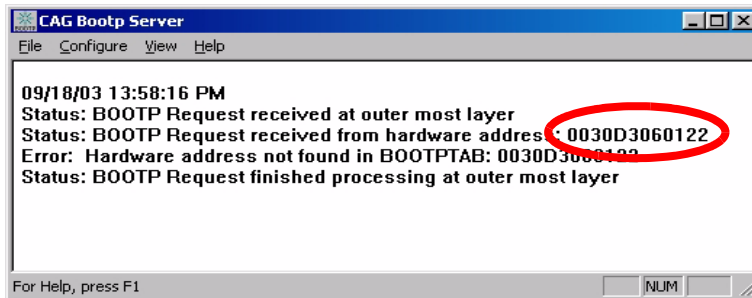

Figure 15 Bootp Server
- 3 Now turn on the module with the LAN Interface and view the Bootp Server window. After some time the Bootp Server will display the request from the LAN Interface with the hardware (MAC) address (this information is also stored in the file trace.txt in the bootp server directory, if Log to Disk is enabled), see Figure 15 on page 25.
- 4 Identify your LAN Interface by the MAC address, see Figure 15.
When using this **Bootp** mode, the parameters are not written into the non-volatile memory of the card. If you delete this Bootp Configuration, the LAN Interface will show up as shown in Figure 15 on page 25 (**Bootp** mode).